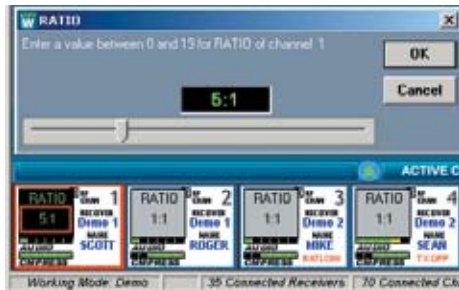

Fig. 13d - All Channel View (after right-clicking and selecting Ratio).
- To select a channel to edit in either view, left click on a channel in All Channel View (indicated by a red border around the selected channel). This displays the selected channel’s settings in the Command View. A right mouse click on a single channel shown in the All Channel View pops up a menu of parameters (see figure 13d). The value of the parameter selected is displayed in the All Channel View for each RF channel, and also pops up an adjustment screen for the selected channel. You can review and compare settings on all channels, one parameter at a time, and adjust any setting on any unit from the All Channel View.